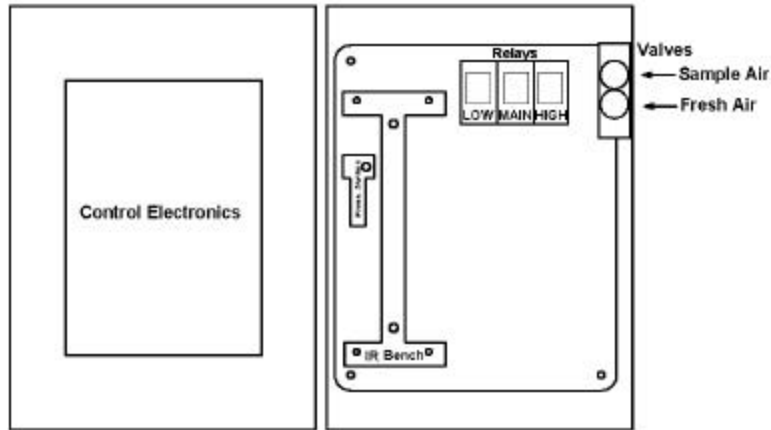

Figure 4 Control Electronics Diagram
**Control Electronics:** Refer to the figure 4 for control electronics block diagram. The signal from the infrared bench is analyzed by the control circuit and converted into a digital measurement in ppm (parts per million). The ppm level is compared to trip points set for Low, Main and High alarm levels. If the ppm level exceeds the Low alarm threshold, the “Leak Wait” algorithm is used to determine